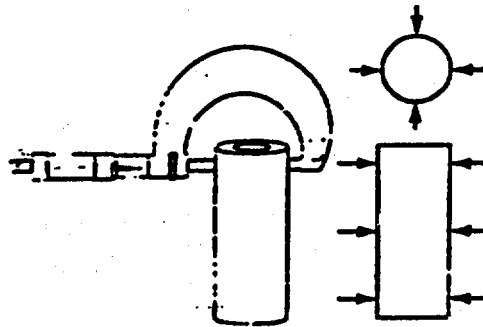

FIGURE 4-39. Measuring Piston Pin Diameter.
- e. Inspect piston pins for nicks, gouges and excessive wear. Measure each pin diameter as shown in FIGURE 4-39.